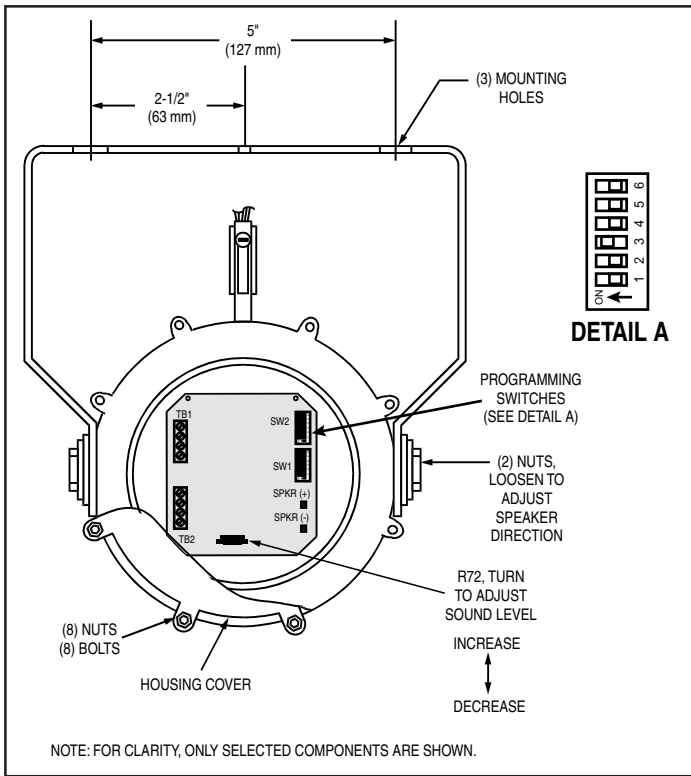

Figure 2. Flex-Tone PC Board and Mounting Holes, ETH855 Model Shown
3. Set miniature programming switches on the printed circuit board (Figure 2) for the desired tone. Set priority tone on SW1 and a secondary tone on SW2. Refer to tone program chart on inside cover and Table 1.
- The sound level is factory set to maximum. Adjust volume level, if desired, by turning potentiometer R72 (Figure 2).